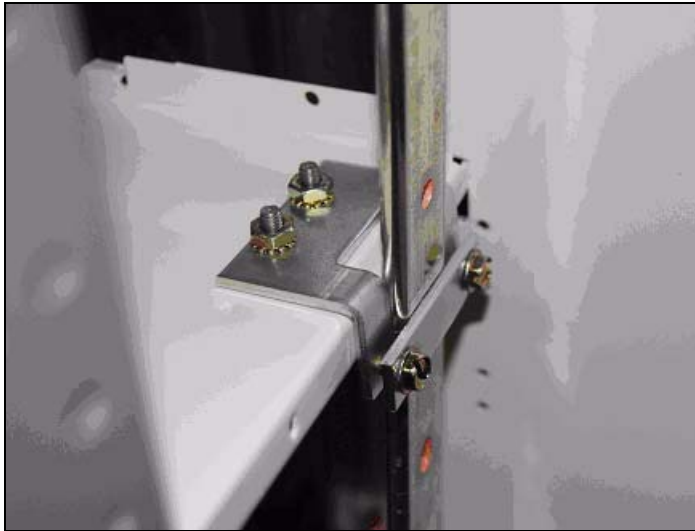

Figure 4. Vertical Ground Bracket Assembly.
- **Divider Pan (7)** - Located in the MCC structure above the unit, the primary function for this component is to guide the unit to its respective location during the assembly into the MCC.
- **Ground Bracket (5)** - Located on the right side of the divider pan, the ground clip provides a surface that allows for the unit to ground to the structure prior to the engagement of the unit bus stabs.
- **Vertical Ground (Clamp and Support) Brackets (4)** - Attached to the vertical ground bus, these brackets act as a stabilizer for the vertical ground bus as it is separated from the Freedom divider pan (see Figure 4).
- **Large Pivot Bracket and Spring (2)** - The pivot bracket and spring assembly is provided as a part of the shutter assembly. It provides a bracket for the shutter rod to pivot in and a spring which allows the shutter to retract as the stabs of the unit are removed from the bus bar.
4. Assemble the ground bracket (5) to the holes on the right side of the new divider pan (7) using the two Keps nuts provided. If you have a vertical ground bus: use the vertical ground brackets (4) in place of the ground bracket. When assembled to the MCC, the bracket should lie on the outside of the vertical ground bus bar to stabilize it against the ground spring (see Figure 4).